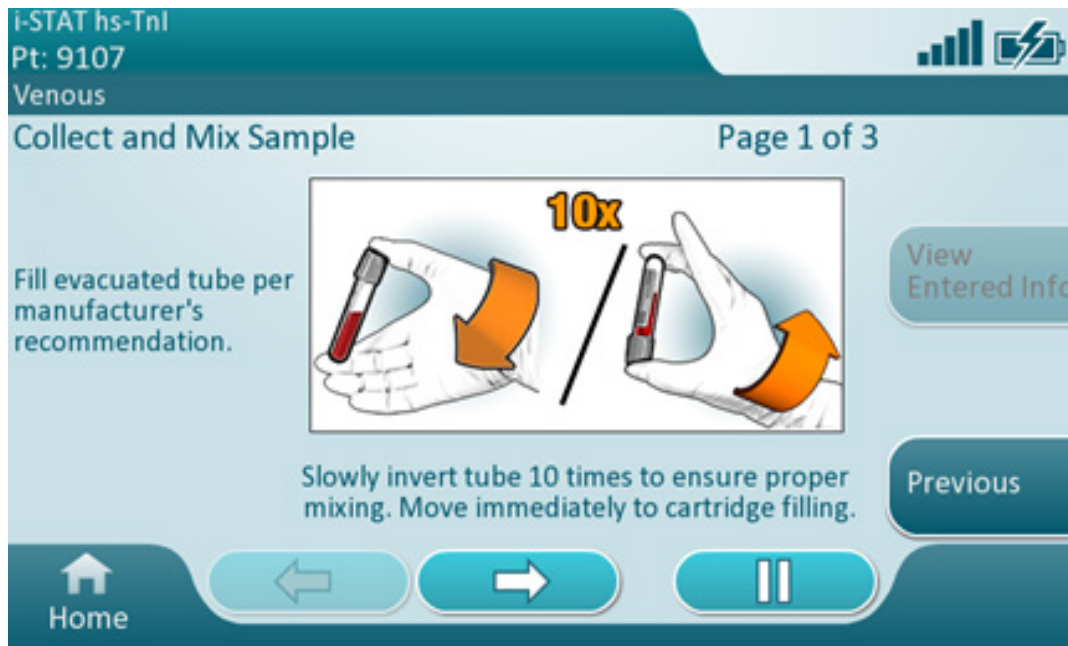

Figure 3.4.4
- When Sex Specific Cutoffs are enabled and patient is found on the ADT list, testing will continue with the appropriate prompt based on cartridge scanned, Figure 3.4.4 below: